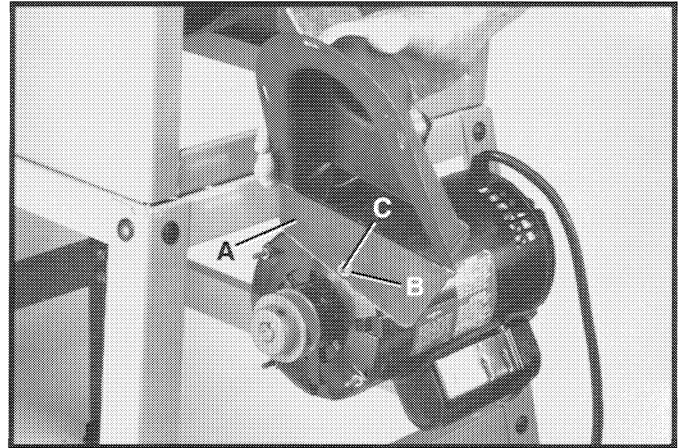

Fig. 17
1. Fasten inside flap (A) Fig. 17, of belt and pulley guard to motor stud using two 13/64" I.D. flat washers, one of which is shown at (B), and one hex head machine nut (C) as shown. **NOTE:** One flat washer (B) is to be located on the outside of the belt and pulley guard and one located on the inside of the belt and pulley guard.